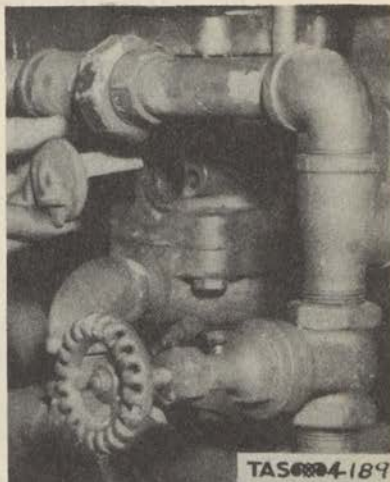

Figure 249. Removal of Cylinder Head on Pressure Regulator and Unloading Valve.
(11) Remove the cylinder head (cap) on the pressure regulator and unloading valve. (Fig. 249)
(12) Raise the upper ball of the pressure regulator and unloading valve with the fingers inserted through the cylinder head opening.